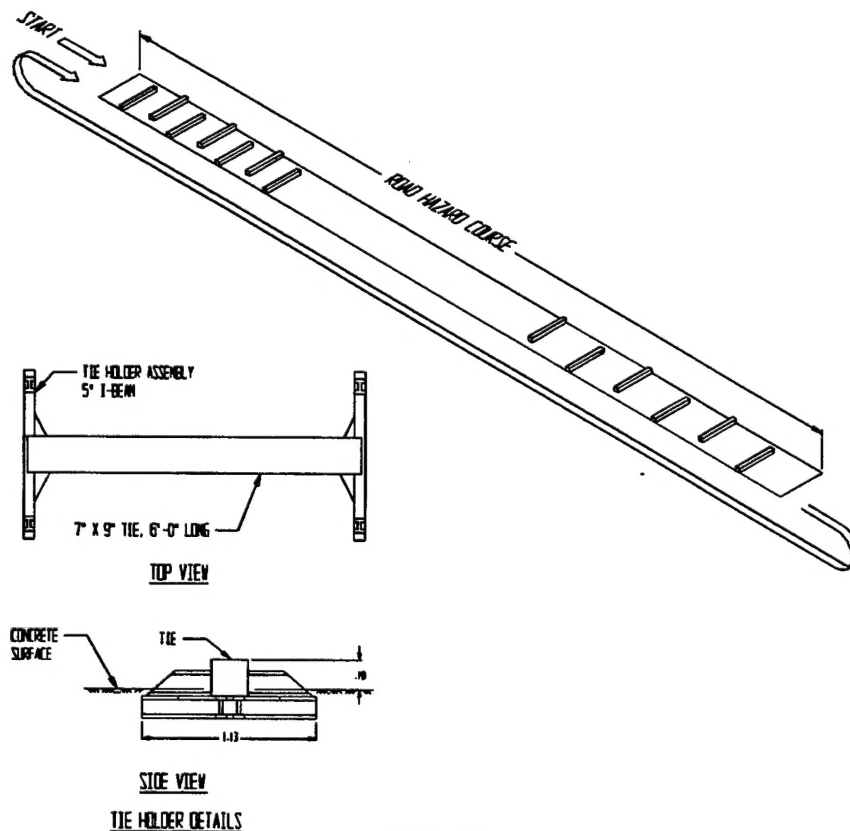

FIGURE 1
A. ROAD HAZARD COURSE. The specimen tested was subjected to the road hazard course (see Figure 1). Using a suitable truck/tractor or tactical vehicle, the vehicle/specimen was towed/driven over a hazard course two times at a speed of approximately 5 mph. The speed was increased or decreased, as appropriate, to produce the most violent load response.